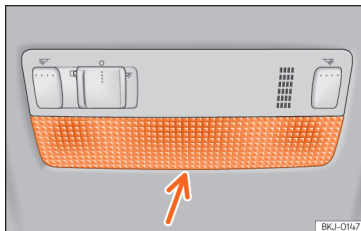

Fig. 57 Front reading light.
- Insert a fine screwdriver between the casing and the glass »» **Fig. 57**.